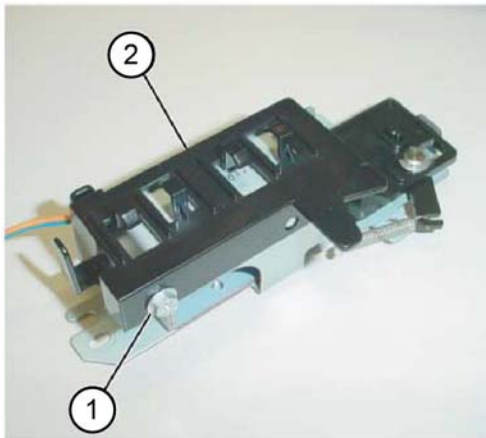

Figure 3 Support removal
8. Remove the support, **Figure 3**:
- a. Remove the screw (1).
- b. Remove the support (2).